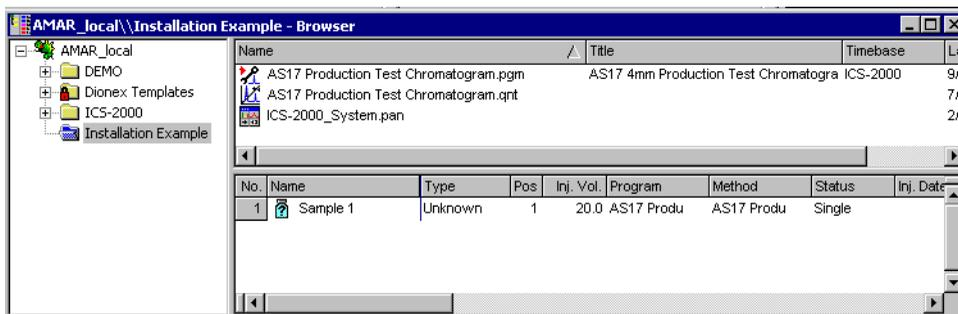

Figure B-55. Example Browser with Open Sequence
18. Click **Next>** and then click **Done** on the last page of the Sequence Wizard. The Browser appears, displaying the sequence you created (see Figure B-55). Notice the three files in the top pane of the Browser window.